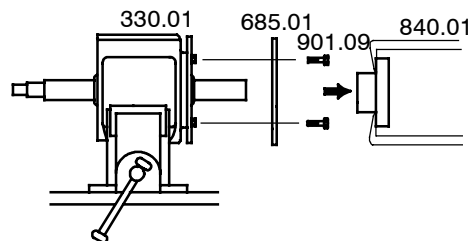

Fig. 5
- 1 Fasten the bearing unit firmly to a vice at the bearing housing (330.01). Fig. 5.